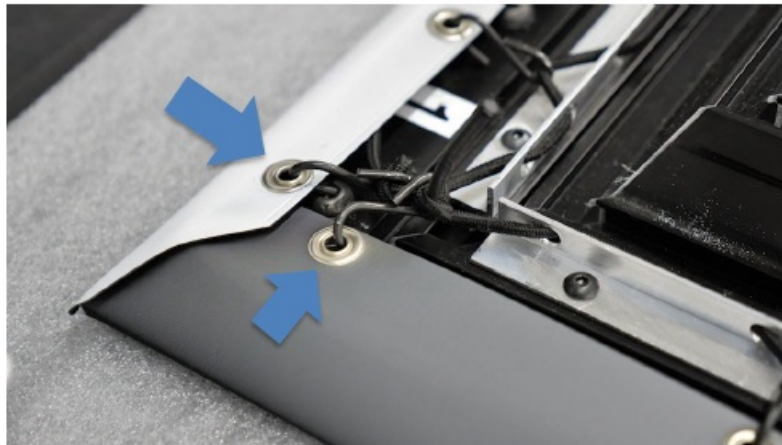

Figure 17: Cross lace corner hooks
- The final hooks at each corner should be connected to the screen by crossing the lacings. The final S-hook on the vertical frame connects to the final grommet on the horizontal screen edge and vice versa (see Figure 17).